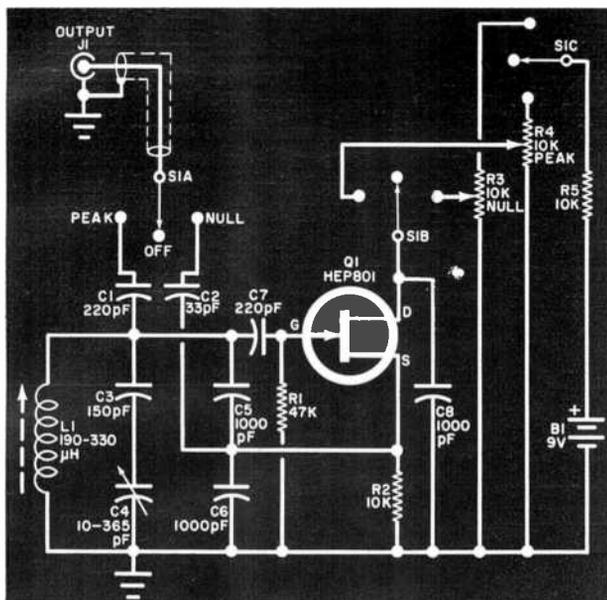

Fig. 1. The circuit is essentially a Colpitts oscillator which is adjusted by R3, R4.
**Theory of Operation.** The schematic diagram of the Q multiplier is shown in Fig. 1. The circuit consists of a simple 455-kHz Colpitts oscillator that can be adjusted in and out of oscillation by R3 and R4. A field-effect transistor is used for Q1 to provide a high impedance to the tuned circuit consisting of L1 and C3 through C6.